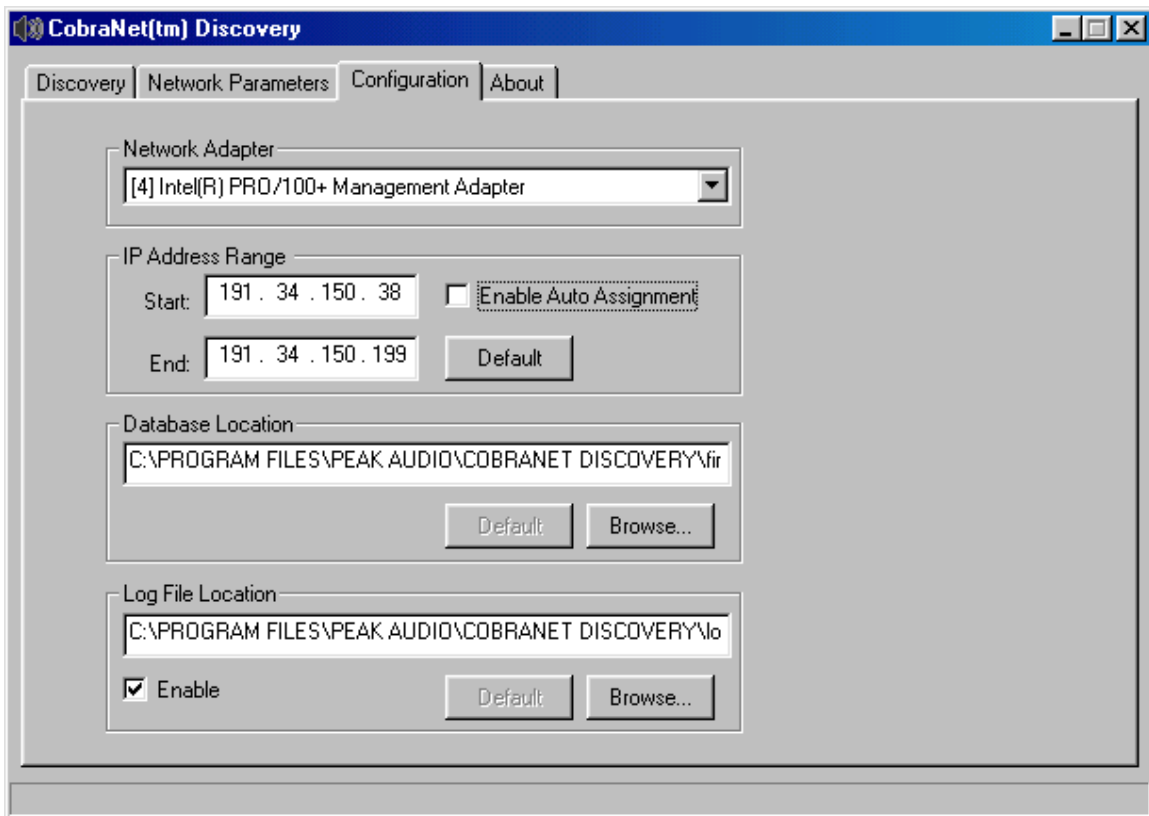

Figure 1.
Typically, the system is setup for class “C” networks. In this paper we deviate slightly from the normal IP address numbering scheme. The first octet (191) is used to distinguish the RAVE network from our in-house data communications network. Note that in the configuration pane of figure 1, we have selected the appropriate network adapter for the network (it is important to select the correct NIC connected to the RAVE network, as there may be multiple adapters installed). Also, we have selected the range of IP addresses to be assigned from 191.34.150.38 to 191.34.150.199.